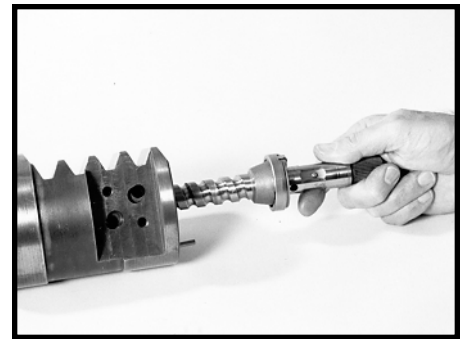

Figure 105
5. When the 10 minute compression time has elapsed, remove the compression tool from the worm shaft/input shaft assembly (17). Grease the worm shaft seal ring (19) and the sealing surface inside the rack piston (31). Install the worm shaft/input shaft assembly into the rack piston end that will position the worm seal ring in the rack bore and position the worm ball track grooves to accept the set of balls through the rack piston ball guide holes. SEE FIGURE 105.